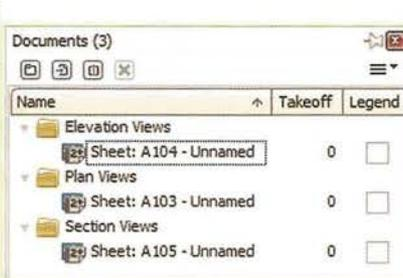

Fig 25: Organizing the Folders
- Select and Drag the sheets to the respective folders (Figure 25).